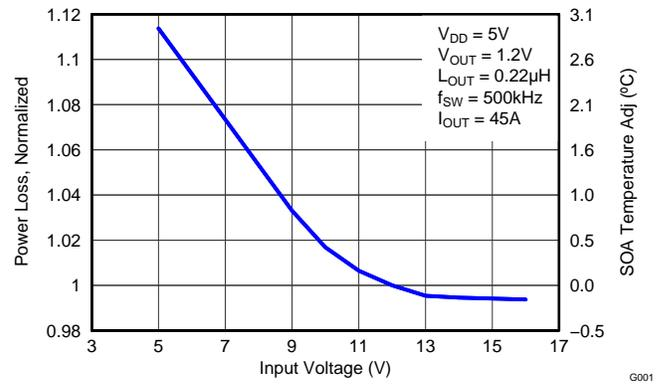

Figure 8. Normalized Power Loss vs Input Voltage
- Normalized Power Loss for input voltage ≈ 1.07 (Figure 8)
- SOA adjustment for input voltage $\approx 1.9^{\circ}\text{C}$ (Figure 8)